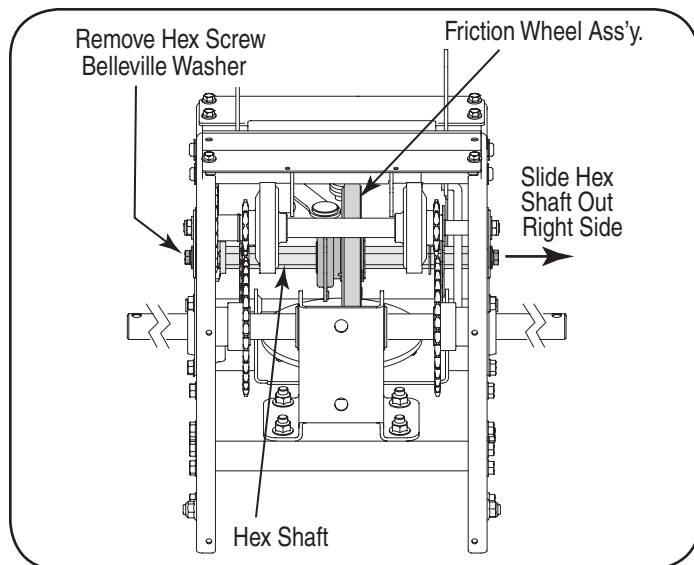

Figure 31
4. Using a 3/4" wrench, hold the hex shaft and remove the hex bolts and cupped washer and bearing from left side of the frame. Refer to Figure 31.